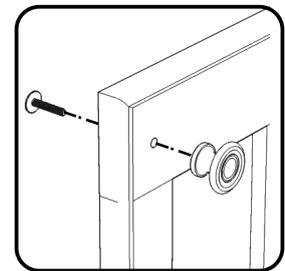

Figure 5
Attach Knobs to Doors (N) and (O) with Machine Screws. (See Figure 5)